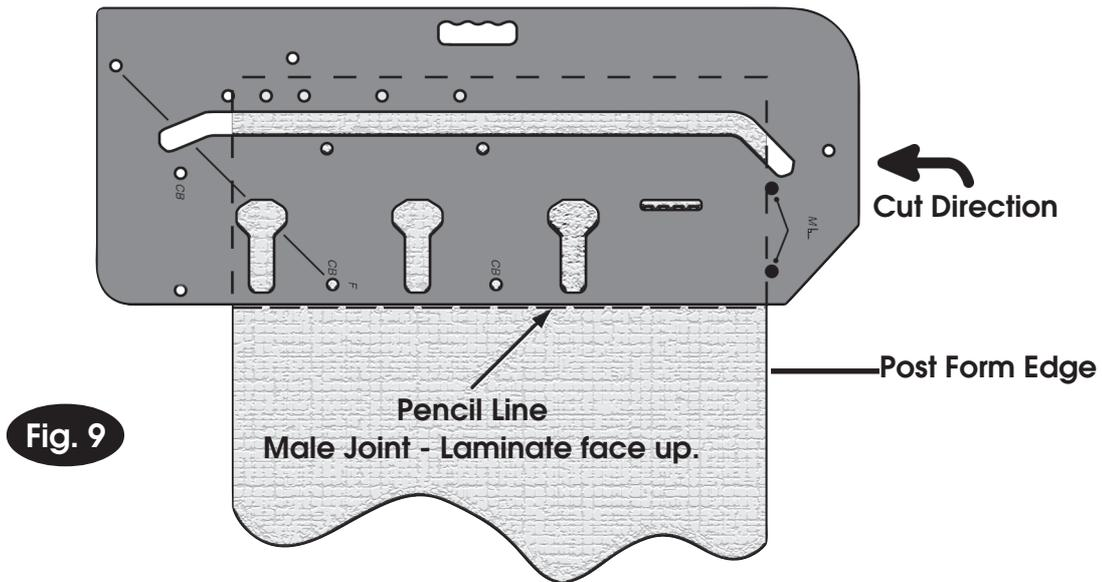

Fig. 9
7. **Male Joint (Fig. 9)** - Place the worktop with the laminate face up.
10. Ensure the two pins in holes 'M' are pushed firmly against the post form edge and the jig lined up on the pencil line as above (Fig. 9 overleaf).